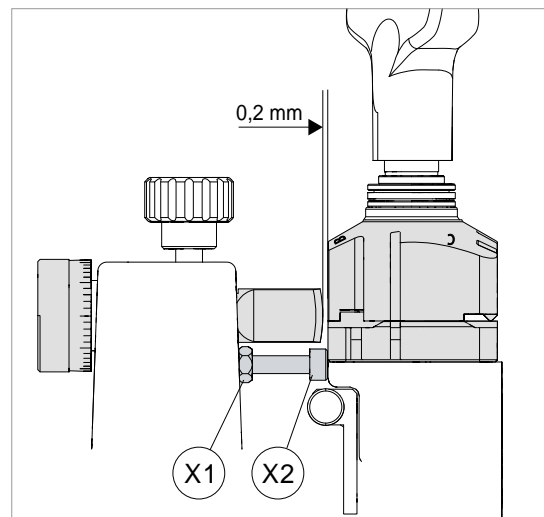

Fig. 33
- 1) Raise the carriage and carry the clamps to the end of its run towards tracer point and cutting tool (Fig. 33)